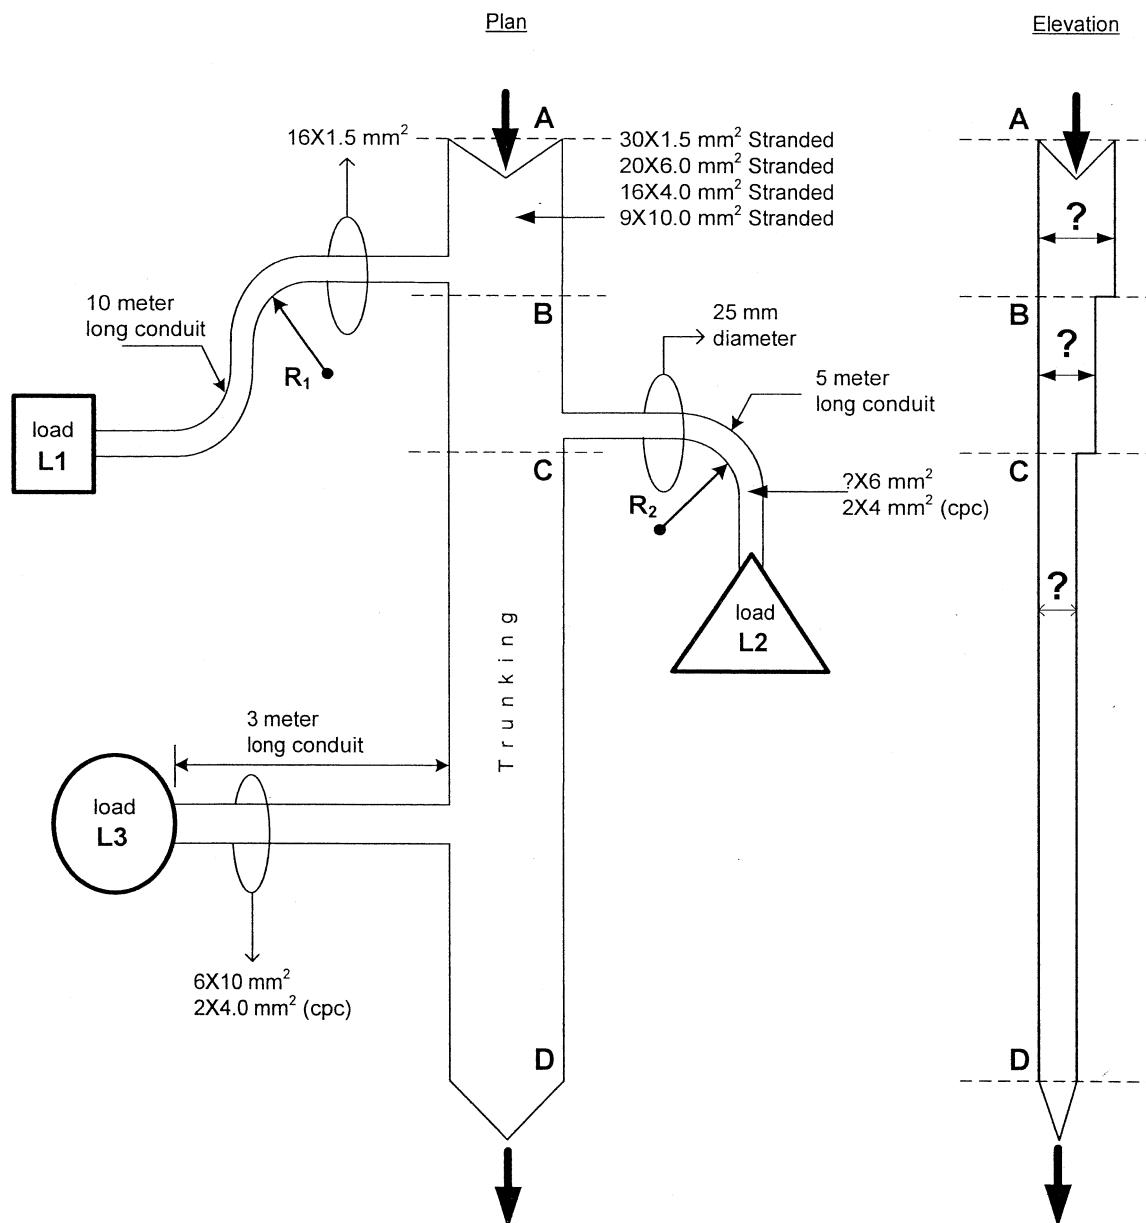

Figure Q7
7. Figure Q7 shows three metal conduits joined to a section of metal trunking in an industrial electrical installation.